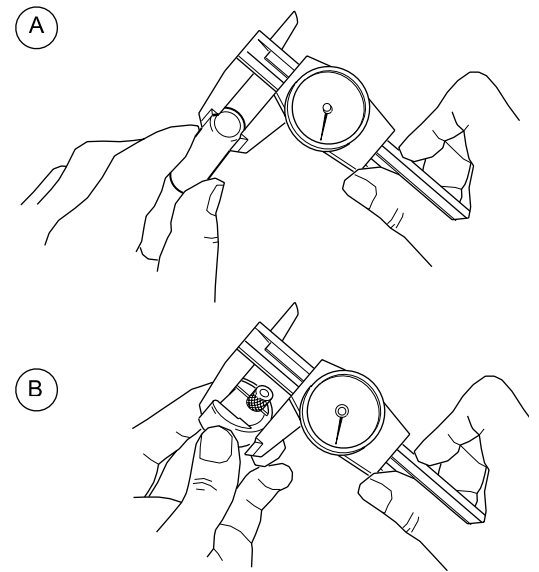

Figure 8 Setting the Arc Gap Gage
1. Measure the outside diameters of the work pieces being welded using a caliper or micrometer. See Figure 8(A). The M200 will calculate the arc gap gage setting when using the Auto Create feature.